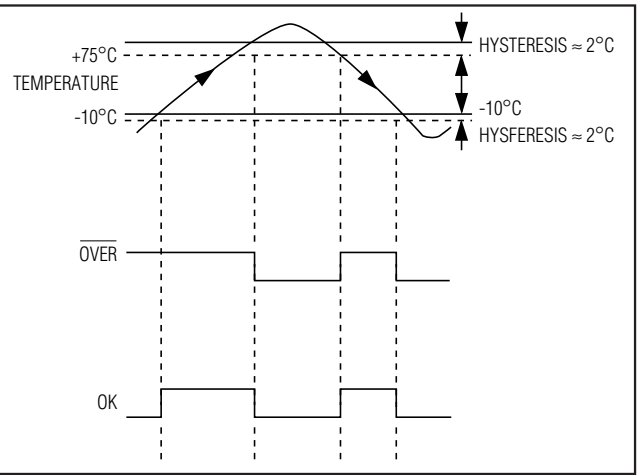

Figure 2. Temperature Response—MAX6507A04B Outputs with 2°C Hysteresis
The MAX6507/MAX6508 have two factory-programmed threshold temperatures (T_{OVER} and T_{UNDER}) and two outputs (OK and OVER). One output (OK) asserts when the temperature is between T_{OVER} and T_{UNDER} . The other output (OVER) asserts when the temperature is above T_{OVER} . Table 4 shows the hex codes to determine the part numbers associated with specific values of T_{OVER} and T_{UNDER} . The first hex code indicates the lower trip point (T_{UNDER}) and the second indicates the higher trip point (T_{OVER}). For example, a part with $T_{\text{UNDER}} = -10^{\circ}\text{C}$ and $T_{\text{OVER}} = +75^{\circ}\text{C}$ will have the part number MAX6508UTA04B (Table 4 and Figure 2). MAX6507 has open-drain outputs; MAX6508 has push-pull outputs.